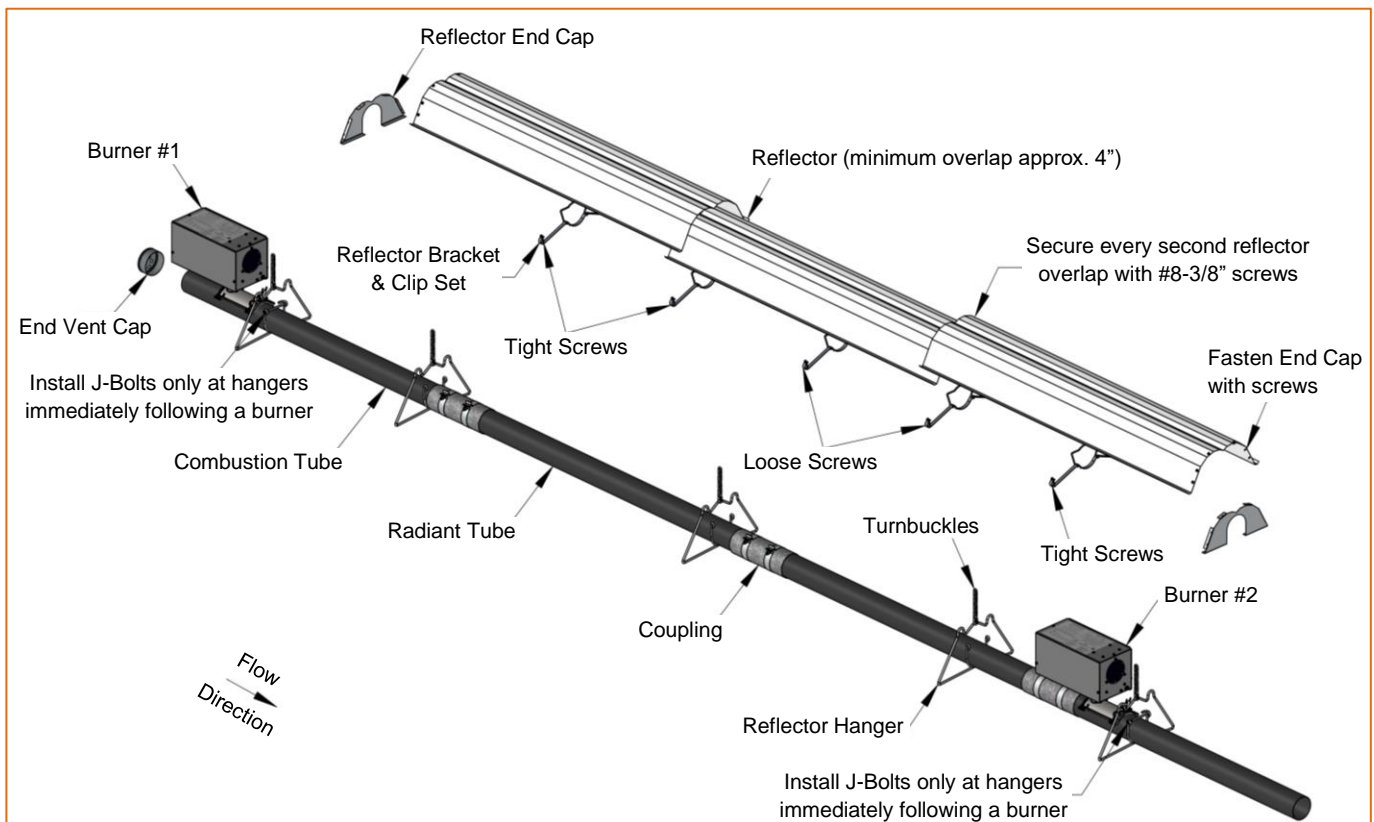
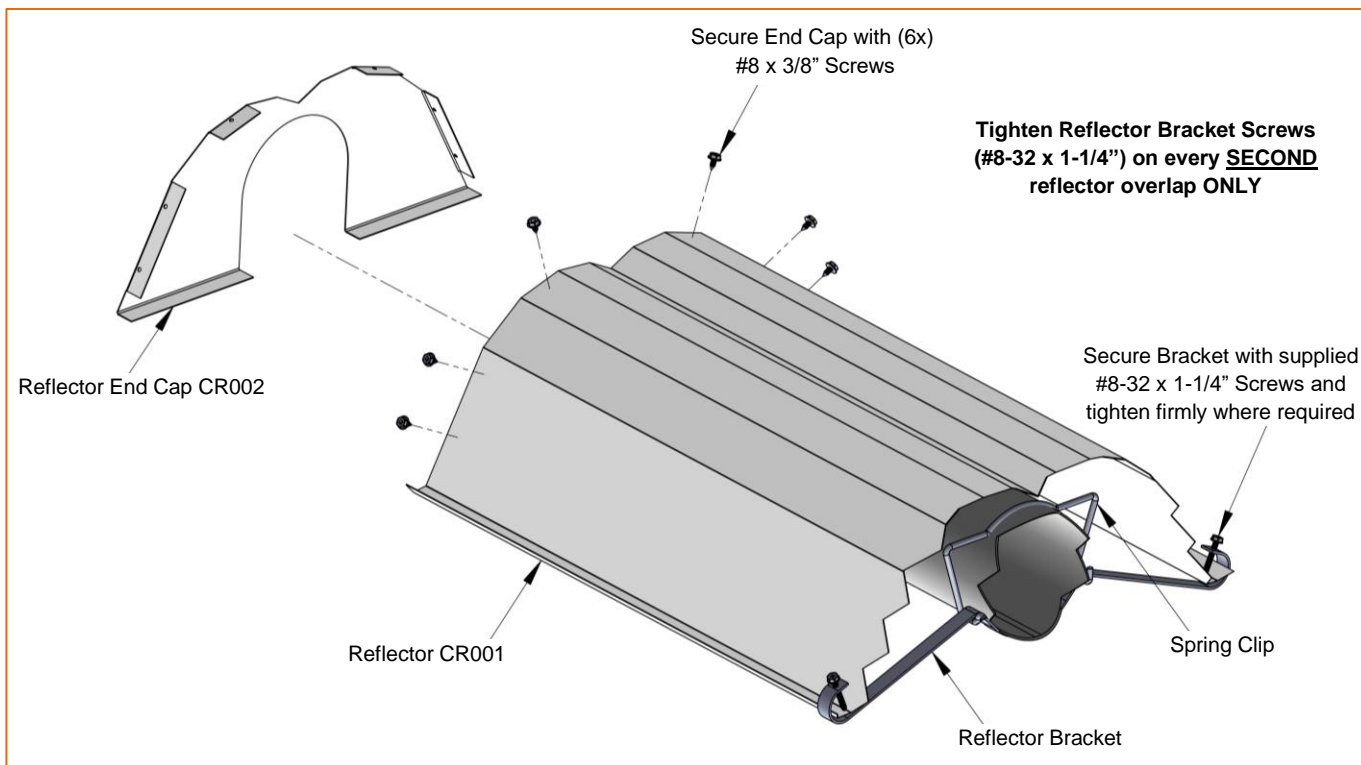
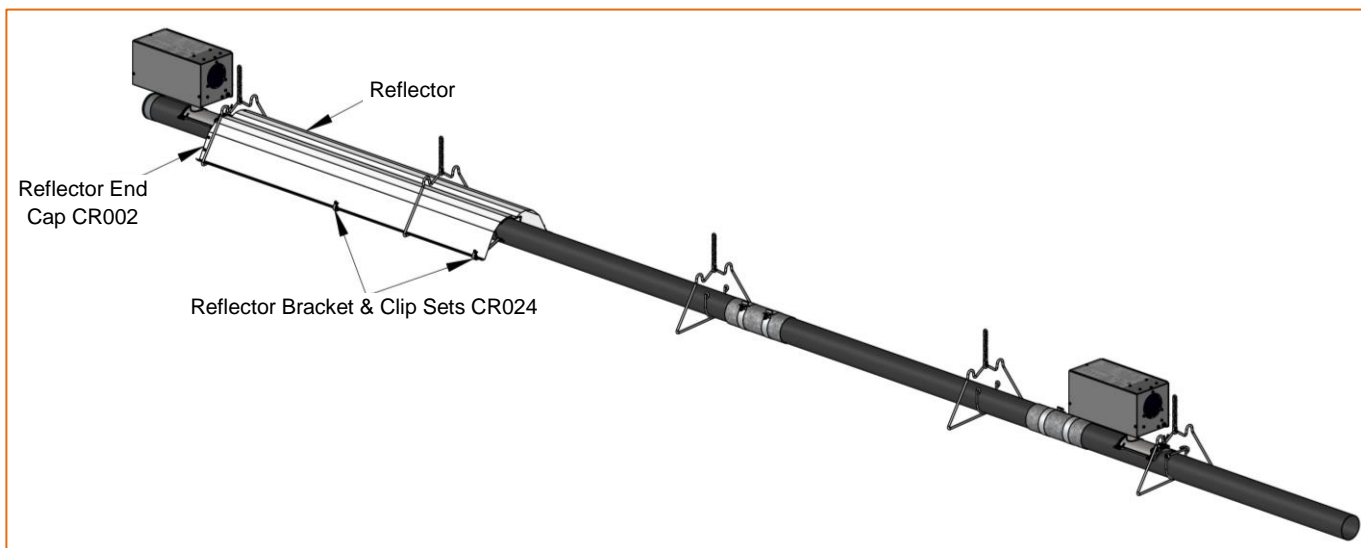
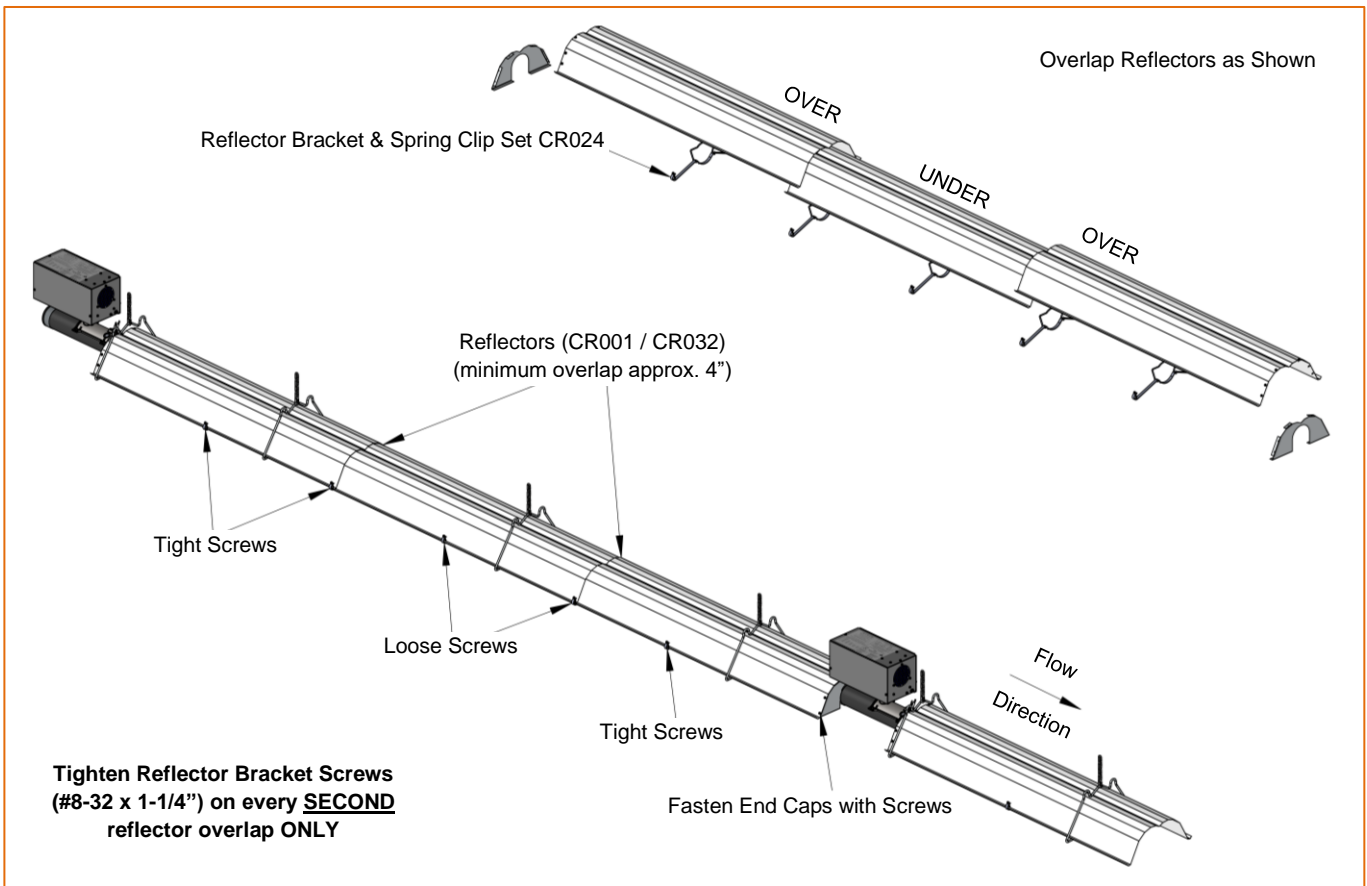

Figure 8: Radiant Line System - Component Relationships
Figure 19: Reflector End Cap and Bracket Detail
Figure 20: View of System after Installation of first Reflector
Figure 22: View of System after Installation all Reflectors
Figure 8 illustrates the relationship of many of the various components of the Radiant Line System and will be a useful reference at many times during the installation.
3. Begin the first Reflector after a Burner with an End Cap about 3" (76 mm) downstream of the Burner as shown in Figure 19 and Figure 20. Install the End Cap using #8 x 3/8" screws. Leaving space in the Reflector run allows unimpeded installation and servicing of the Burner.
4. Install Reflector Brackets. Place one at each Reflector overlap position and one in the middle of each 10 ft. (3050 mm) Reflector length. Secure the Brackets loosely with #8 x 3/8" screws. Tighten only the screws for Brackets in the centre of alternating Reflectors and at every second overlap location. The remaining Reflector Bracket screws are left loose to accommodate system movement/expansion. Refer to Figure 20 below and to Figure 8 for a visual of which screws to tighten and which to leave loose.
- Continue to slide the Reflectors into place within the Tube/Reflector Hanger up to the next Burner position. Overlap the Reflectors as shown in Figure 8 and Figure 22.